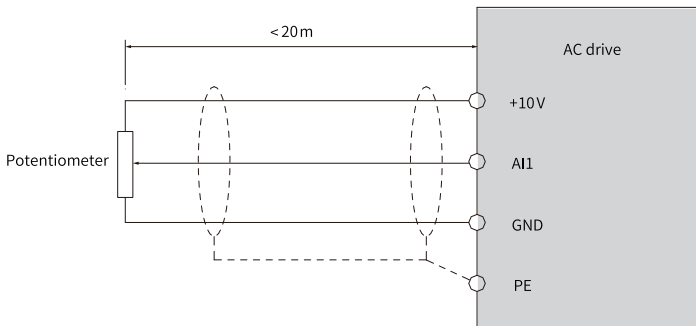
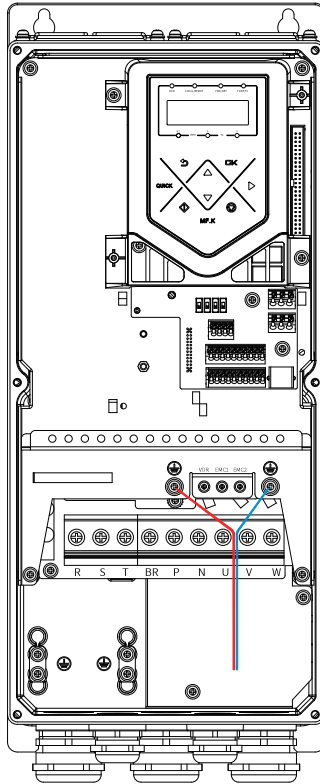
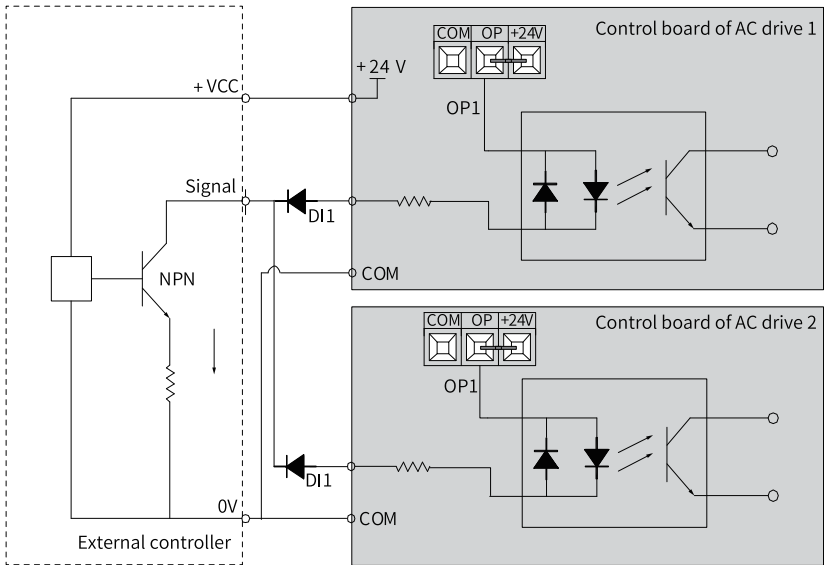

Figure 5-28 Wiring of AI terminals
Figure 5-29 Shield grounding for analog terminals (T1 to T2, 7.5 kW to 30 kW)
Figure 5-34 Parallel connection of DIs on multiple AC drives in the sink mode
Weak analog voltage signals are prone to external interference. Therefore, a shielded cable is required, and the wiring distance must be as short as possible (no longer than 20 m), as shown in "Figure 5-28 Wiring of AI terminals" on page 64. When analog signals suffer severe disturbance, install a filter capacitor or ferrite core on the analog signal source side, as shown in "Figure 5-29 Shield grounding for analog terminals \(T1 to T2, 7.5 kW to 30 kW\)" on page 65. Connect the lead wire of the AI shield to the PE terminal of the AC drive.
In the mode, the DIs of different AC drives cannot be connected in parallel. Otherwise, the DI may malfunction. If DIs of different AC drives must be connected in parallel, connect the anode of a diode to the DI in series and the diode needs to satisfy the requirement:  $IF > 40 \text{ mA}$  and  $VR > 40 \text{ V}$ , as shown in "Figure 5-34 Parallel connection of DIs on multiple AC drives in the sink mode" on page 69.
- Minimize the length of the lead wire of the shield. Fasten the lead wire to the standard grounding copper busbar of the AC drive by using screws. For details on the grounding, see "Figure 5-29 " on page 65 and "Figure 5-34 " on page 69 .